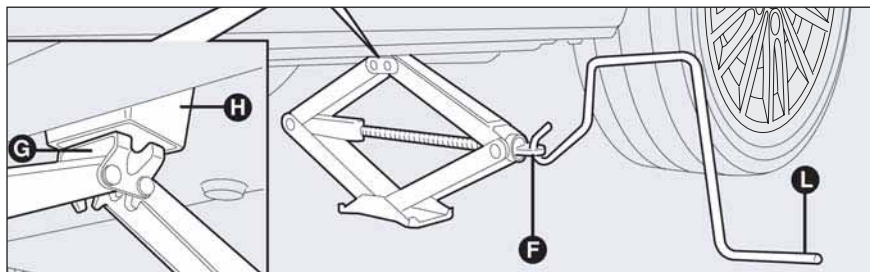

fig. 8
- ☐ operate the device **F-fig. 8** to extend the jack until the top of the jack **G-fig. 8** fits correctly into catch **H-fig. 8**;
- ☐ fit the handle **L-fig. 8** to operate the jack and lift the car until the wheel to be changed is several centimetres off the ground;
- ☐ turn the jack handle **L-fig. 8** to lower the car and remove the jack;